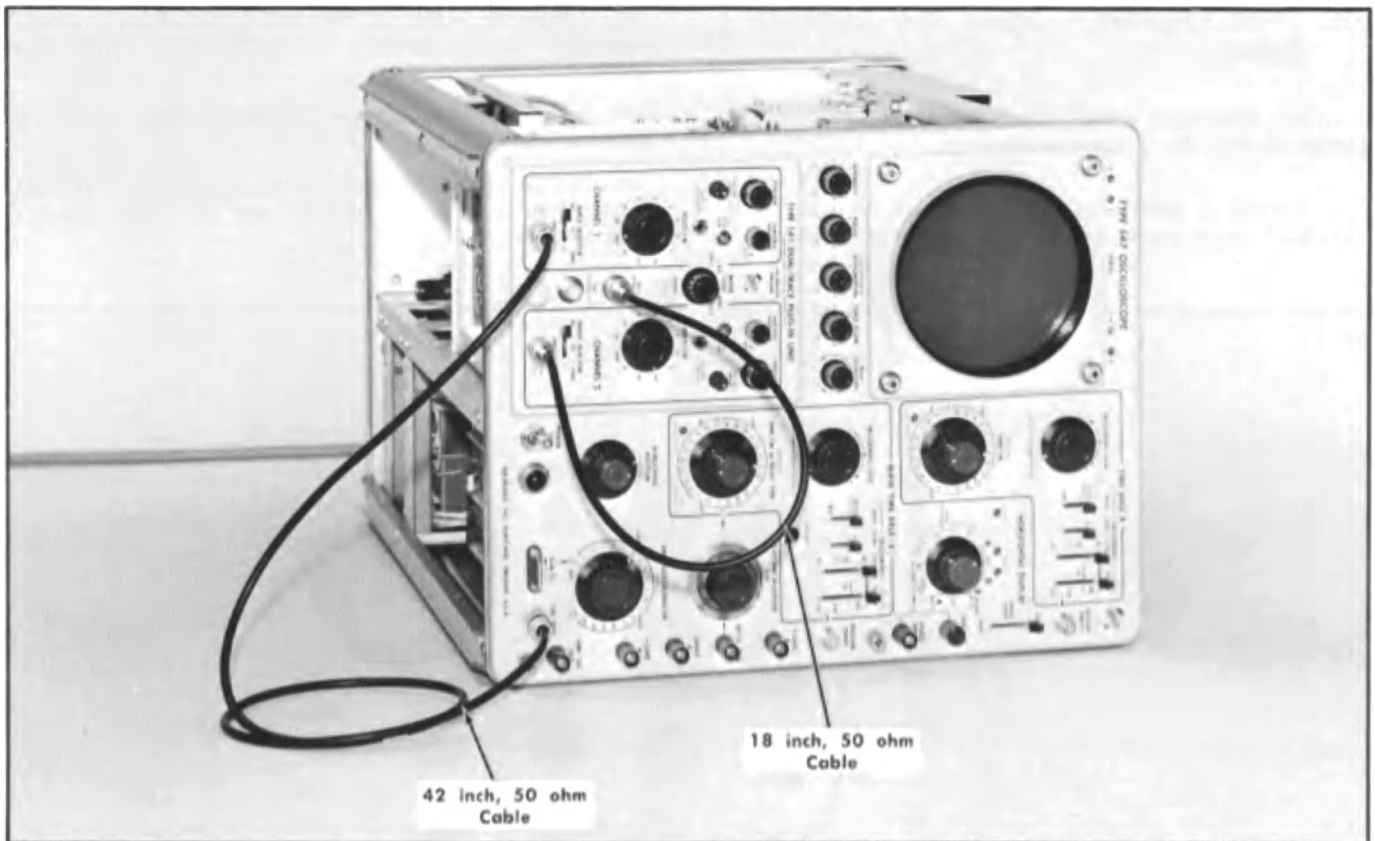

Fig. 7-19. Equipment setup for step 18.
a. Test equipment setup, with connections made at completion of step 18d, is shown in Fig. 7-19.